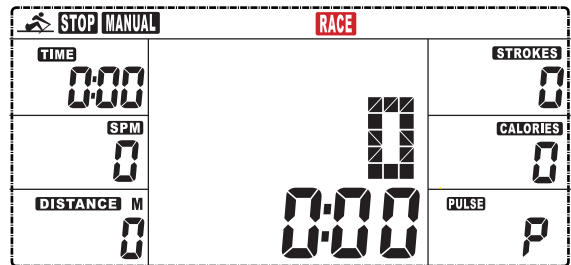

Fig.4
3. The user can press up or down to select level. After confirming, the user will enter the training mode.(Fig 4)